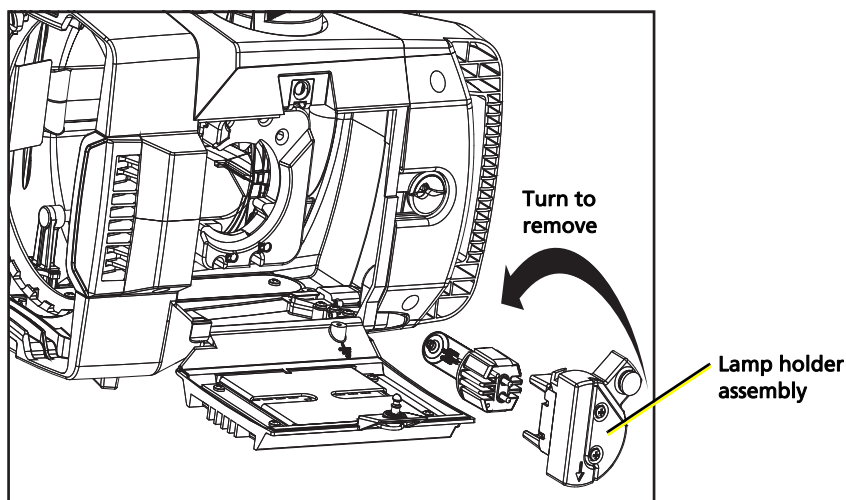

Figure 3: Remove lamp with quarter-turn counterclockwise
- 7: Align the flat sides of the lamp base with the retention brackets on either side of the socket in the lamp holder assembly as shown in Figure 3.